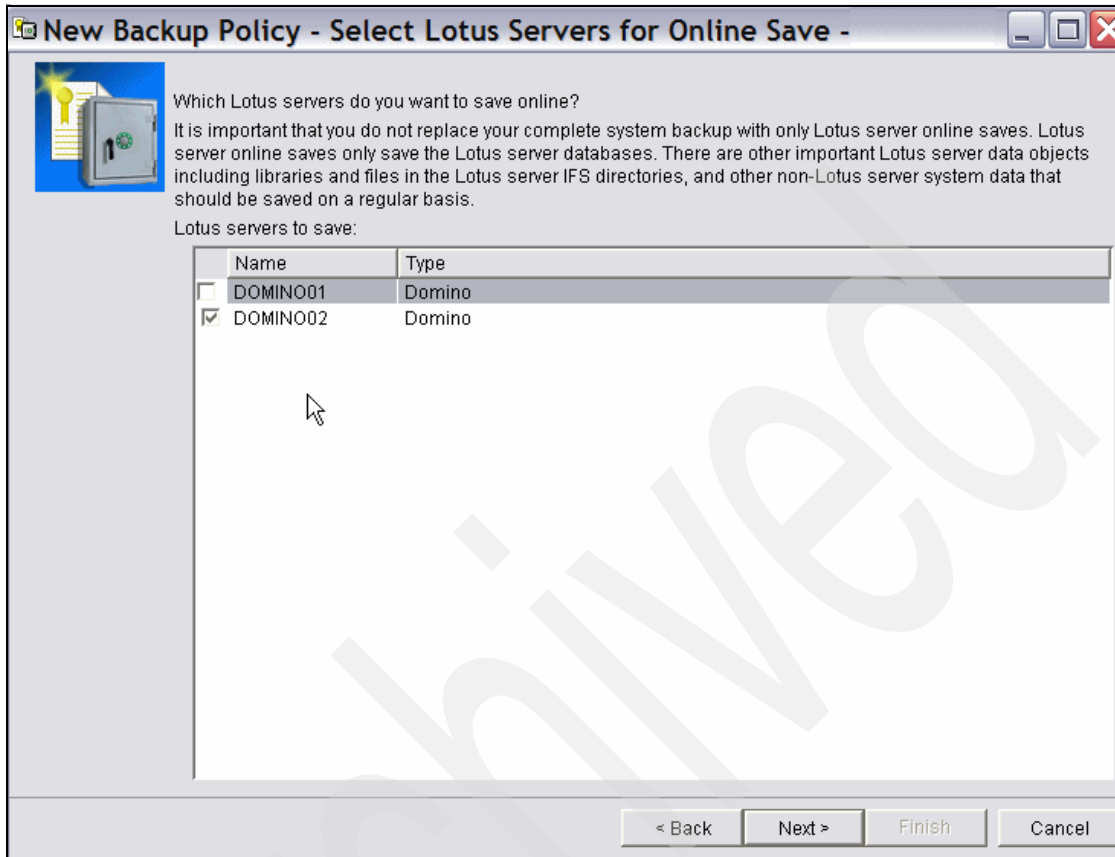

Figure 5-21 BRMS backup policy, select Lotus servers for online backup
8. In the Select Lotus Servers for Online Save window displayed in Figure 5-21 on page 209, two Domino servers, DOMINO01 and DOMINO02, are present. In this scenario, only DOMINO02 is backed up. Therefore, the concept of order does not apply.